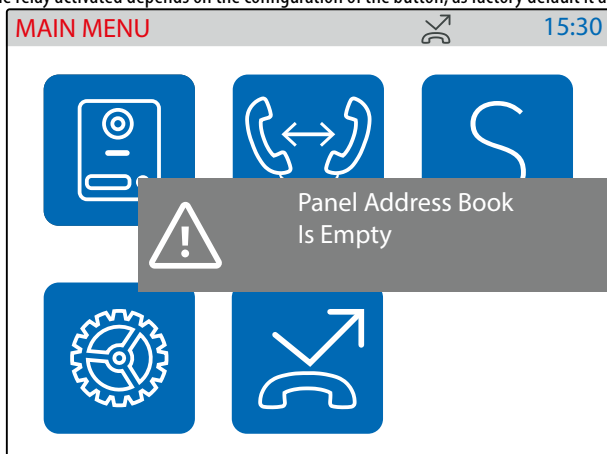

Fig. 37 Empty panel address book
- The  button, if the "Panels Address Book" it is not empty (Fig. 37), initialises a camera recall to the favourite* door panel.